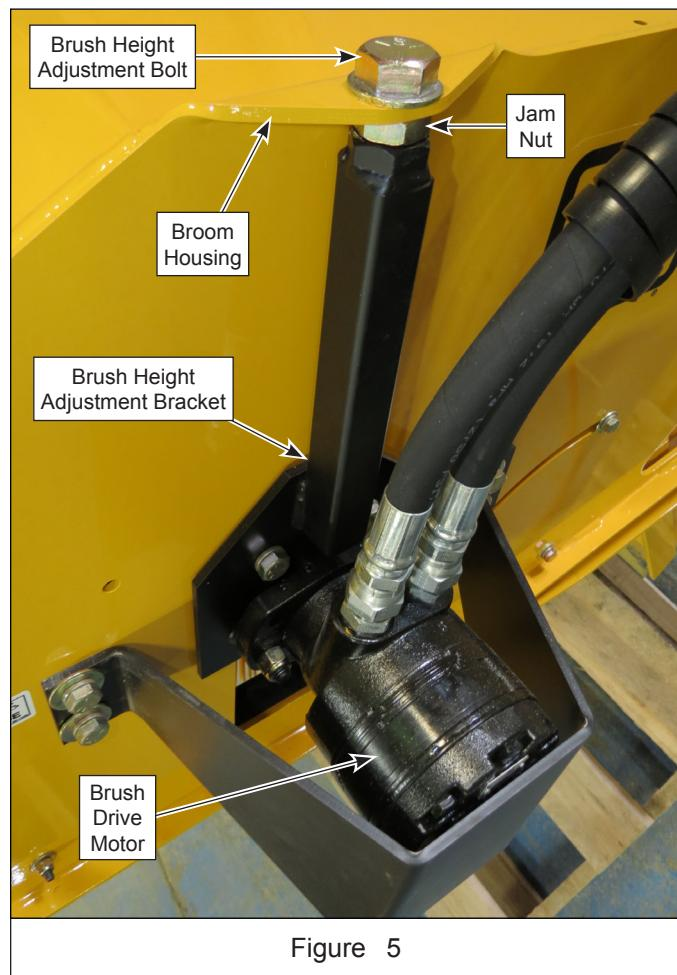

Figure 5
- Loosen the adjustment jam nut(s) away from the broom housing. See Figure 5.